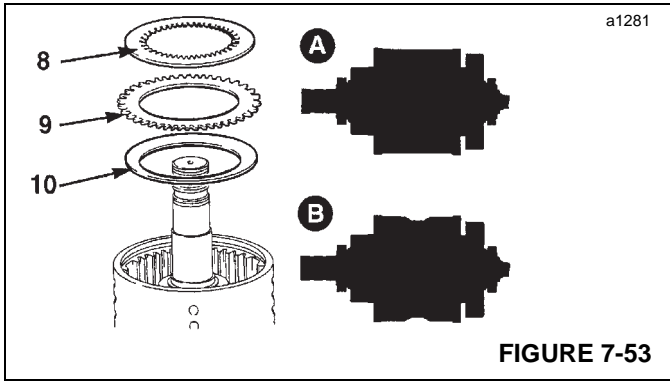

FIGURE 7-53
- Remove the clutch friction/counter plates (8 and 9, Figure 7-53). Keep them together as sets. DO NOT mix the plates with those of other clutches.
- Remove last counter plate (9).
- Remove disc spring assembly (10).